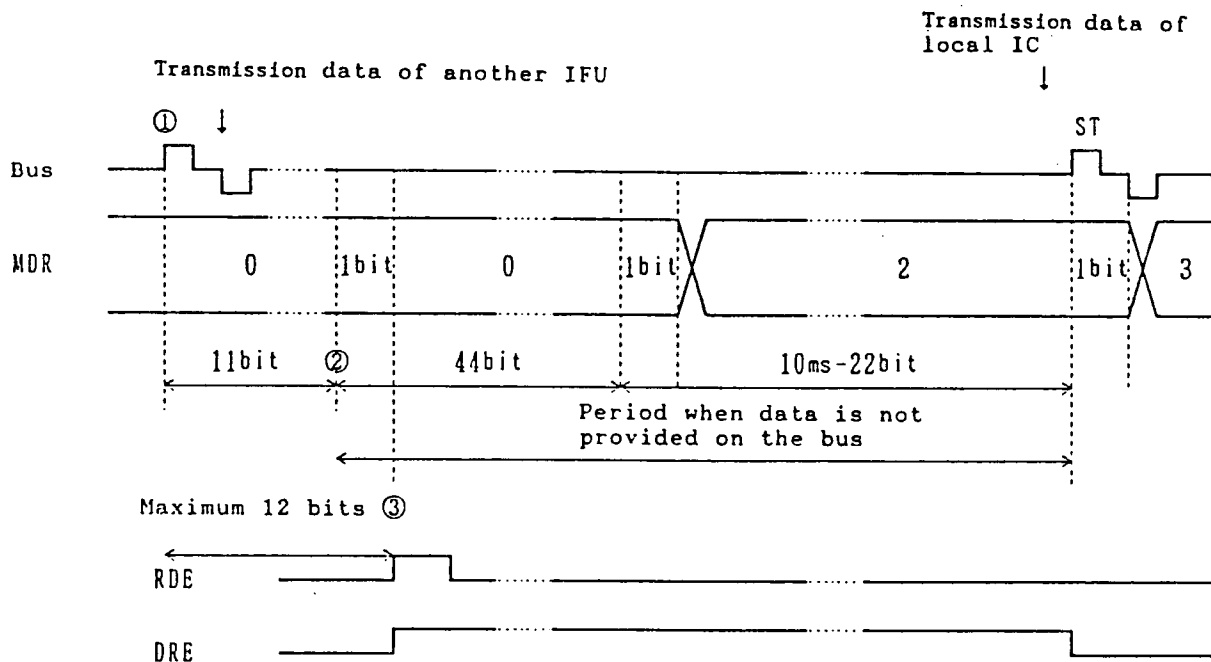

Figure 4.11 When data comes while the state counter is "0"
Figure 4.11 shows a case that data (including noise) comes when the state counter is "0".
In this case, data comes at Figure 4.11 ① and RDE and DRE rise within 12 bits (Figure 4.11 ③).
The pause period is 10 ms + 22 bits after the data end (Figure 4.11 ②): Not related to the position where RDE and DRE rise). In this case, sending is not performed in the synchronization recovery period even though transmission data has been set. Data is sent after synchronization recovery.
(1) is the method shown in Figure 4.11, etc. This method identifies completion of synchronization recovery when the period without data continues for 10 ms + 22 bits.